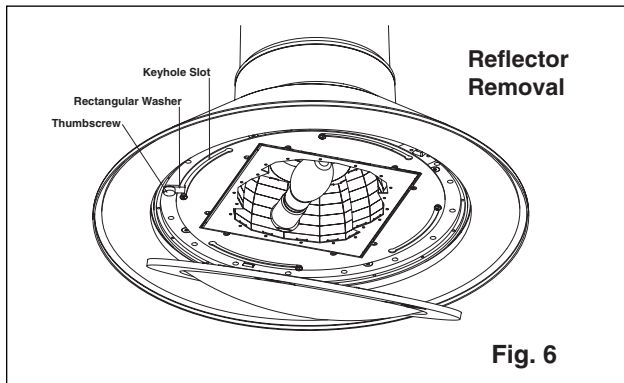

Fig. 6
3. Loosen thumbscrew until rectangular washer can be rotated 90 degrees. See Figure 6.
2. Remove two screws on ballast cover followed by ballast cover. See Figure 6.